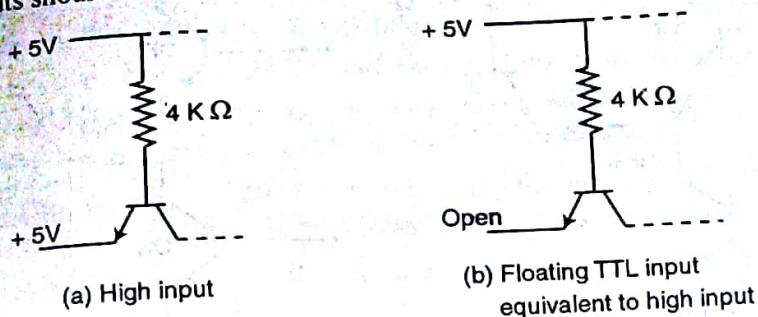

Fig. 4.12
**Floating inputs** When a TTL input voltage is HIGH (ideally +5V) as shown in Fig. 4.12(a), the emitter current is zero. When a TTL input is unconnected (floating) as shown in Fig. 4.12(b), there is no flow of emitter current because of the open circuit. Hence, a floating TTL input is equivalent to a high input.
Here, the negative sign indicates that the current flows out of the device. [Refer to Fig. 4.12(a) and (b).]